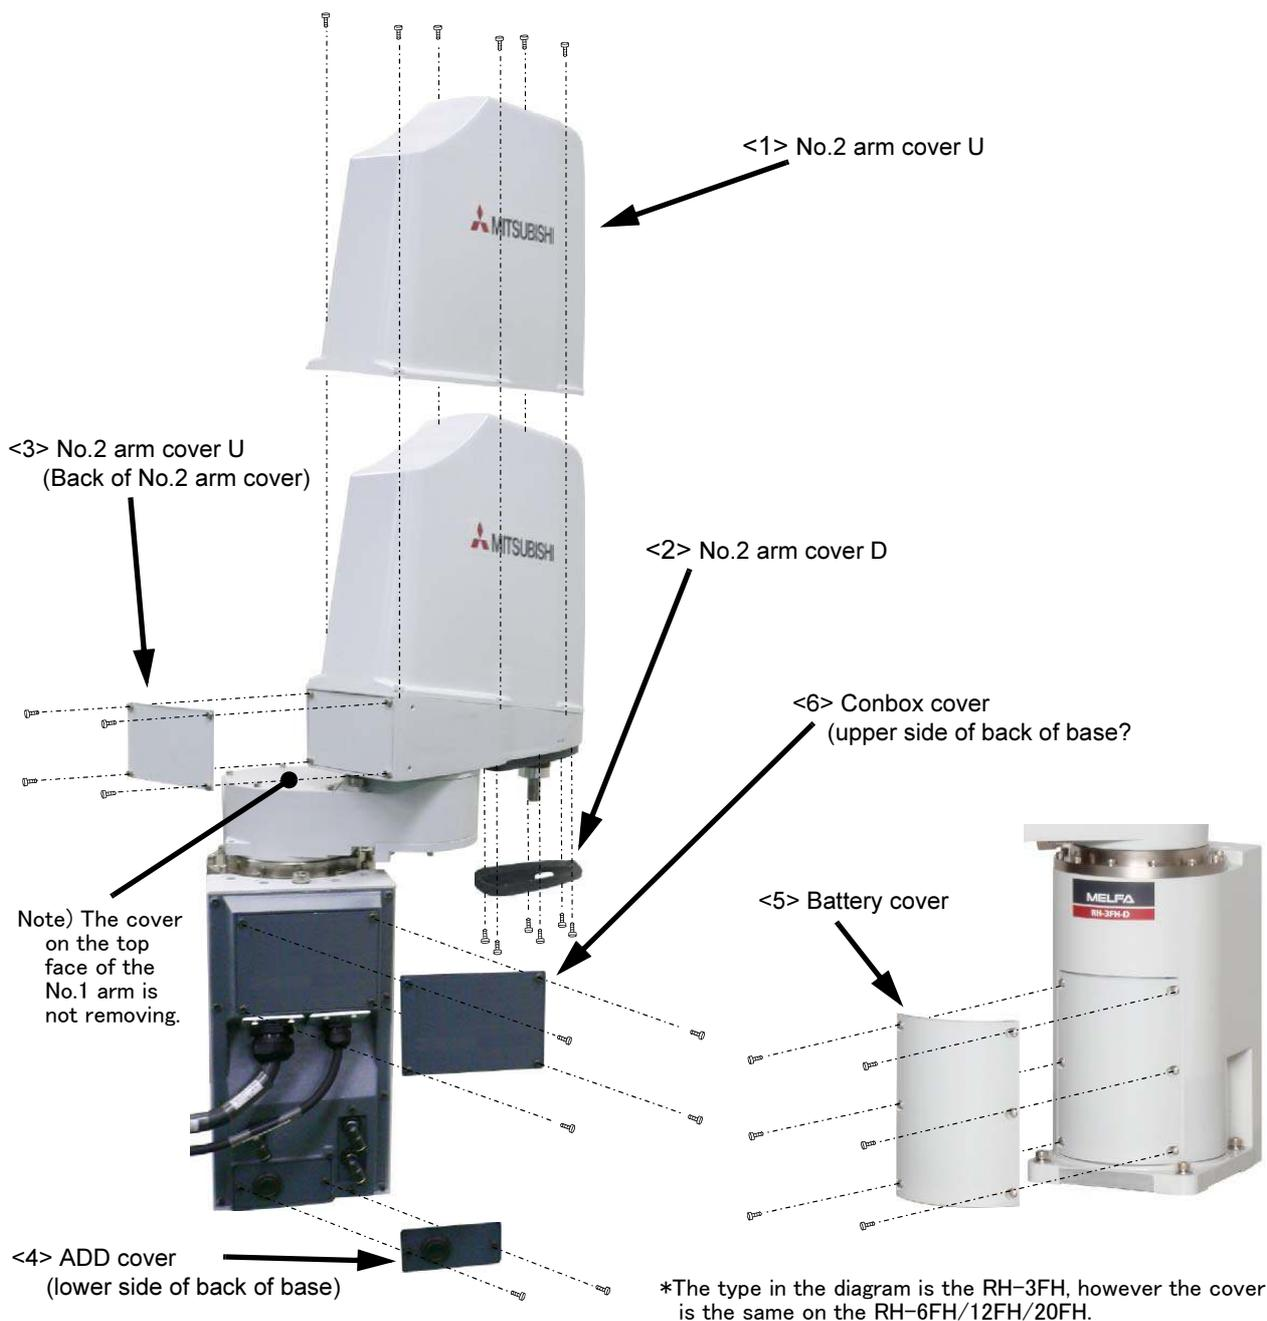

Fig.5-4 : Installing/removing the cover
- (1) Referring to Fig. 5-4, remove the covers.
- (2) The names of the covers and installation screws are given in Table 5-3.
- (3) When reattaching the covers after a maintenance inspection, proceed in the reverse order of their removal. Tightening the screw with the torque shown in Table 5-3.
- 2) Refer to Page 68 "Fig. 5-4: Installing/removing the cover", and remove the No.2 arm cover U.